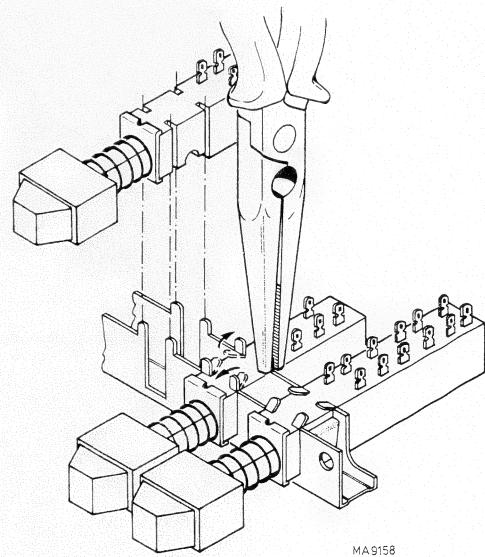

Fig. 3.10 Replacing a pushbutton switch
- Straighten the 4 retaining lugs of the relevant switch as shown in Fig 3.10.